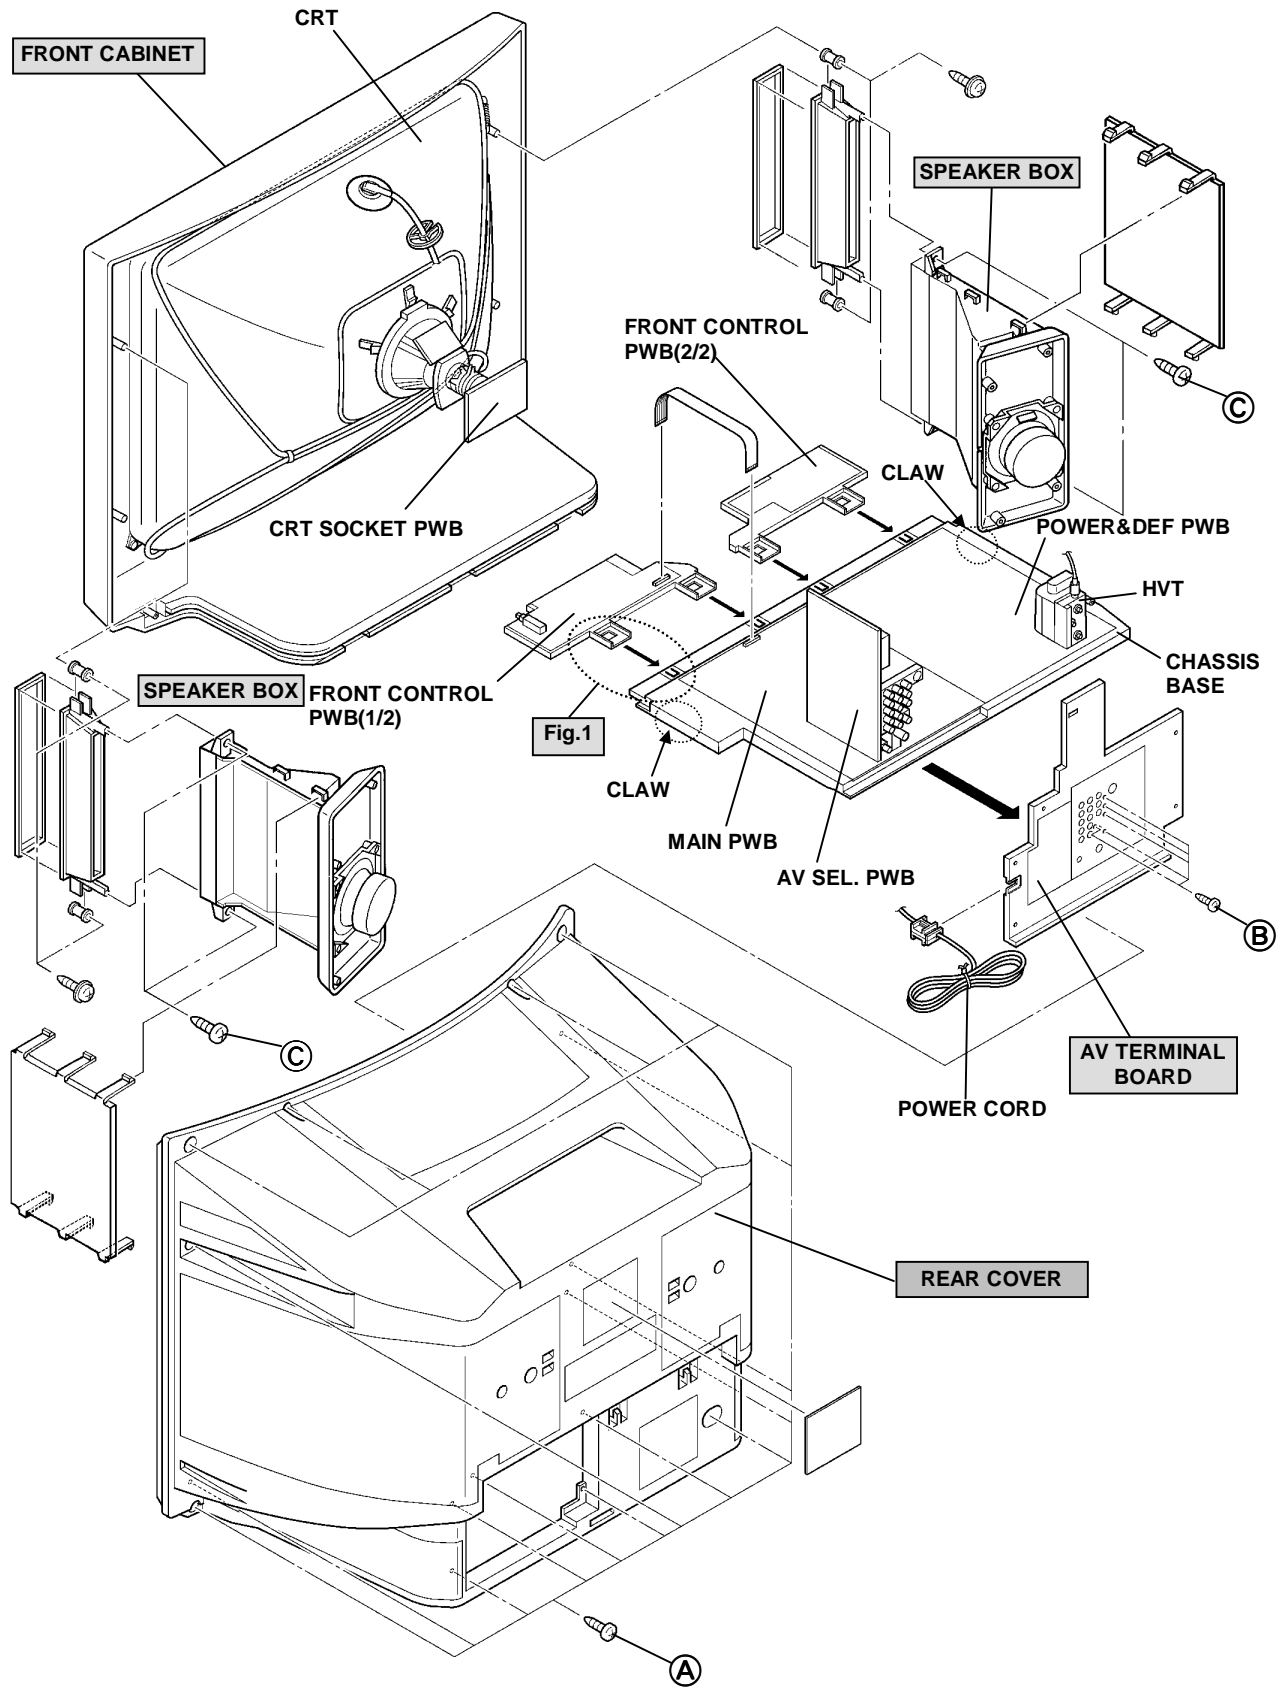

Fig.2
1. As shown in Fig. 2, removing the **2** screws marked **(C)**, then remove the speaker box.